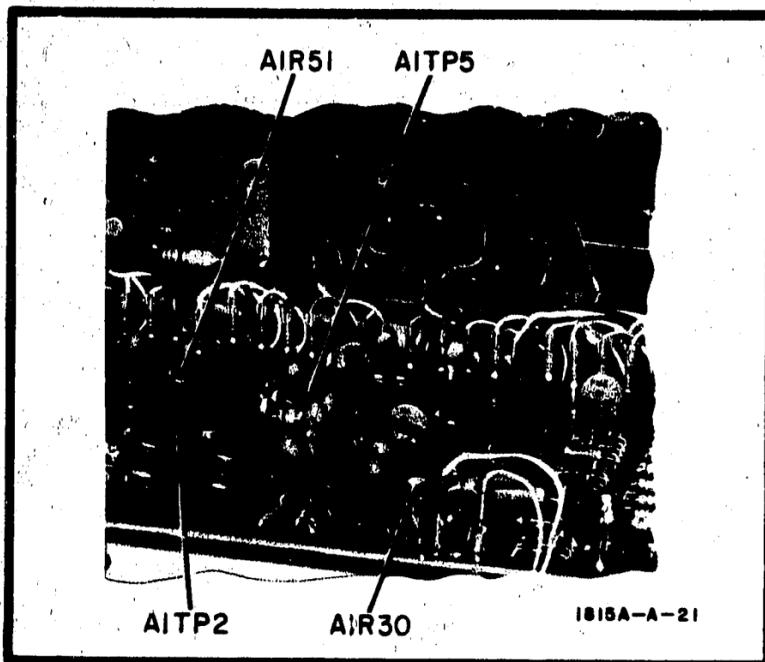

Figure 5-6. Preliminary Adjustments
i. Adjust STRCH GATE potentiometer A1R30 (shown in Figure 5-6) in the Model 1815A for maximum sampling efficiency (max dot separation).